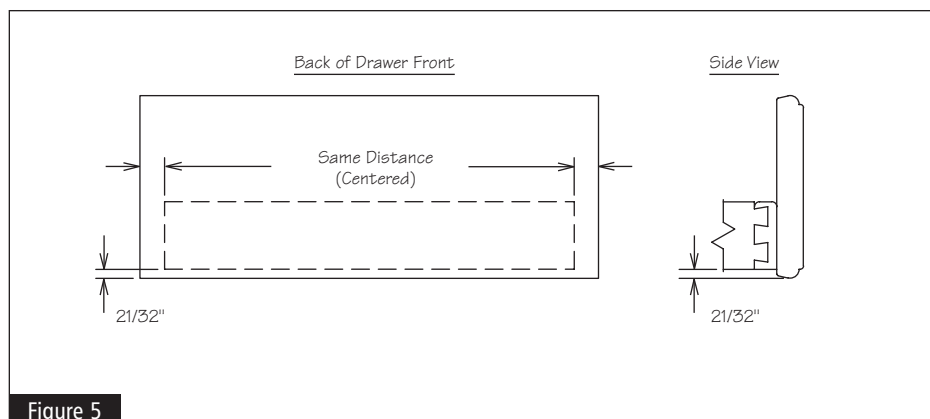

Figure 5
- 6** • Draw a horizontal line on the back of the drawer front, 21/32" from bottom. Place the new drawer body on the back of the drawer front, aligning the bottom with the line you just drew, and centering the drawer body side-to-side (see Figure 5).
• Attach using the (3) 1" X #8 screws and tighten with the phillips head screw driver.